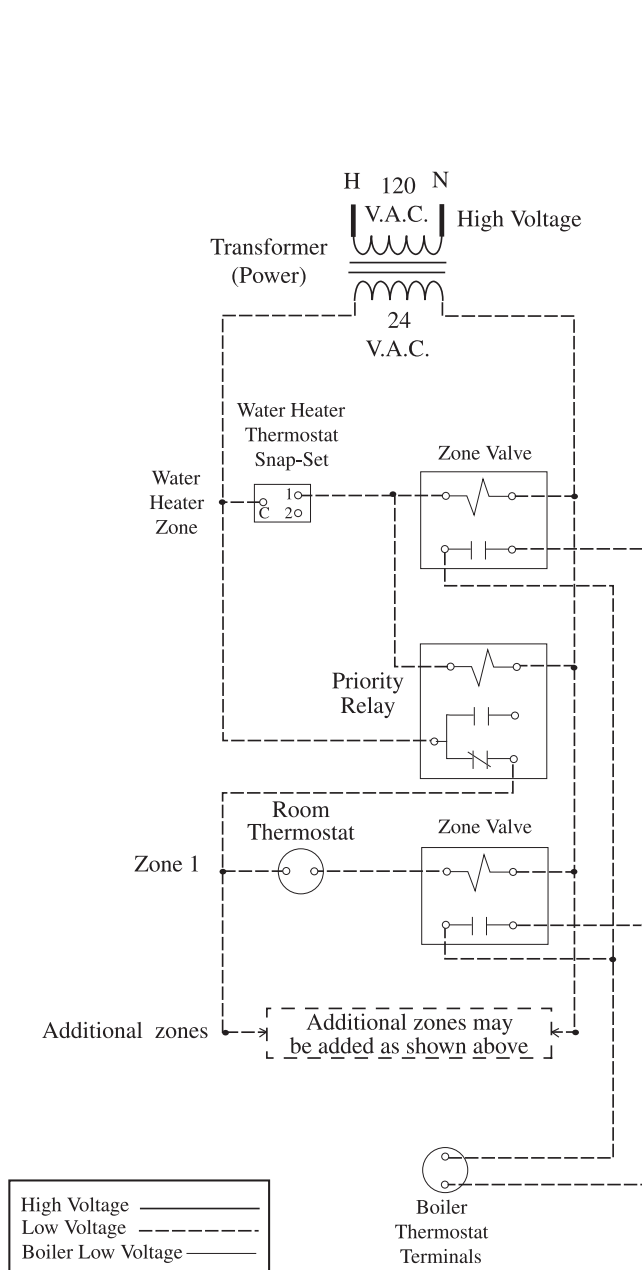

Figure 5.1: Typical 4-Wire Zone Valve Zoning, With Domestic Priority
5. All electrical contacts shown do not have power applied - off the shelf condition. See Figures 5.1 through 5.9.
1. For easy wiring between water heater thermostat and boiler controls see Installation Wiring section Figures 5.1 through 5.9.